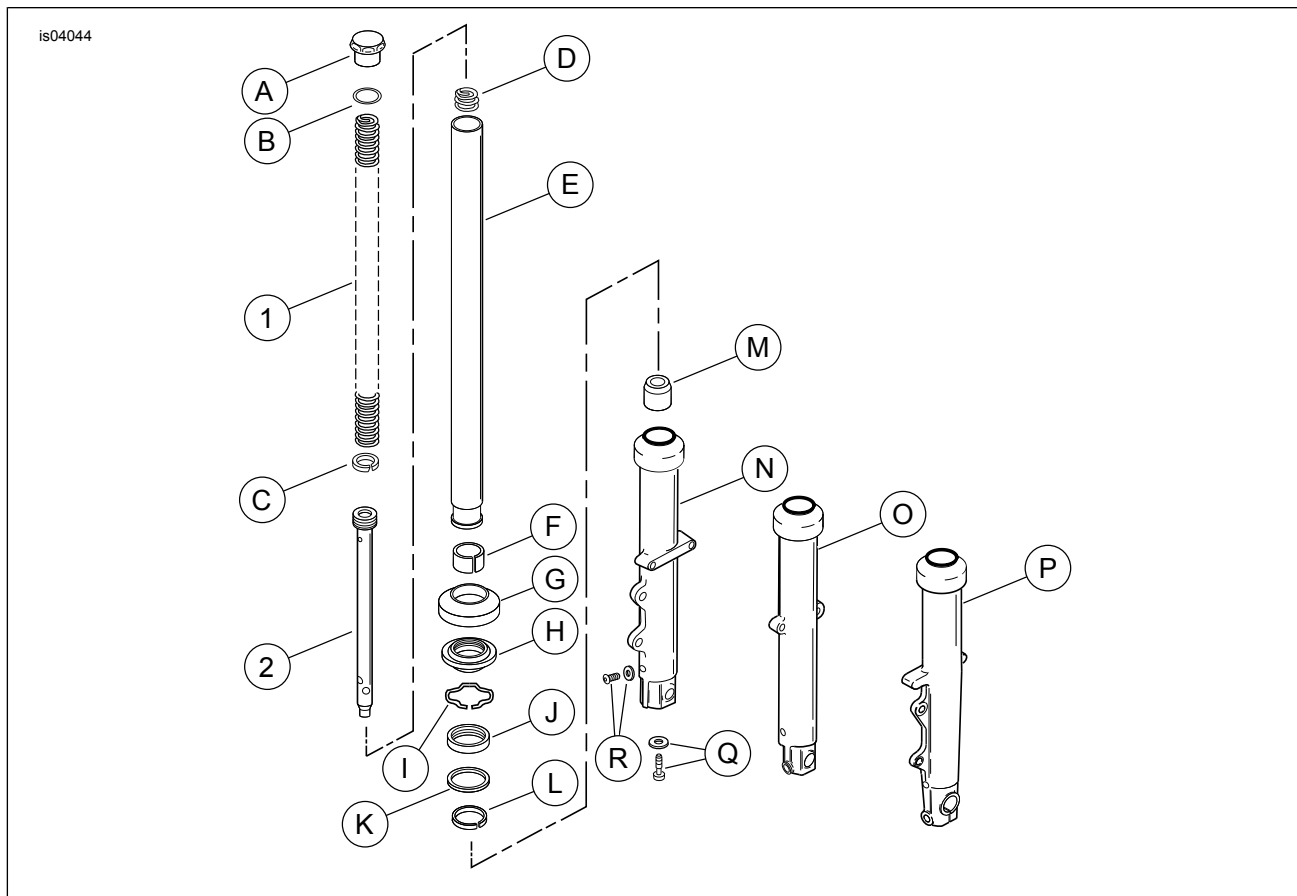

Figure 8. Service Parts for XL Front End Lowering Kit (45480-05)
See Figure 8 and Table 1.
2. See Figure 8. Place a drain pan under fork and remove drain screw (R).
4. See Figure 8. Remove and discard spring (1).
5. Remove cover (G) and dust seal (H).
6. Compress internal circle clip (I). Remove clip from groove in top of slider bore.
7. Remove screw and washer (Q) from bottom of the slider.
8. Withdraw slider tube (E) from slider (N, O or P) until lower bushing (F) on slider tube contacts upper bushing (L) in slider. Use lower bushing in a slide hammer motion to gently tap out oil seal, spacer and upper bushing from slider bore.
9. Remove lower stop (M). The lower stop will be found within the slider (N, O or P) or on the bottom end of the damper tube (2).
11. Remove rebound spring (D), from damper tube. Discard damper tube.
1. See Figure 8. Install new lower bushing (F) in groove of slider tube (E). Expand bushing only wide enough to fit over the tube.